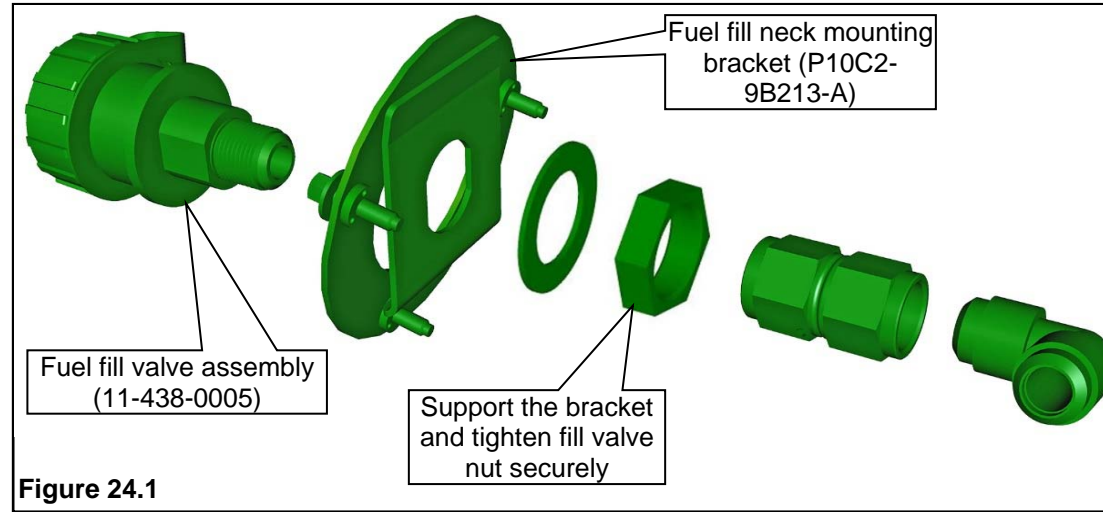

Figure 24.1
9. Remove nut and washer from fuel fill valve and assemble valve to fuel fill bracket. Support fill valve and bracket assembly and tighten nut securely. **Figure 24.1.** These parts are in hardware kit P11GD-FILLKIT-A and P14EB-FILLKIT-A.